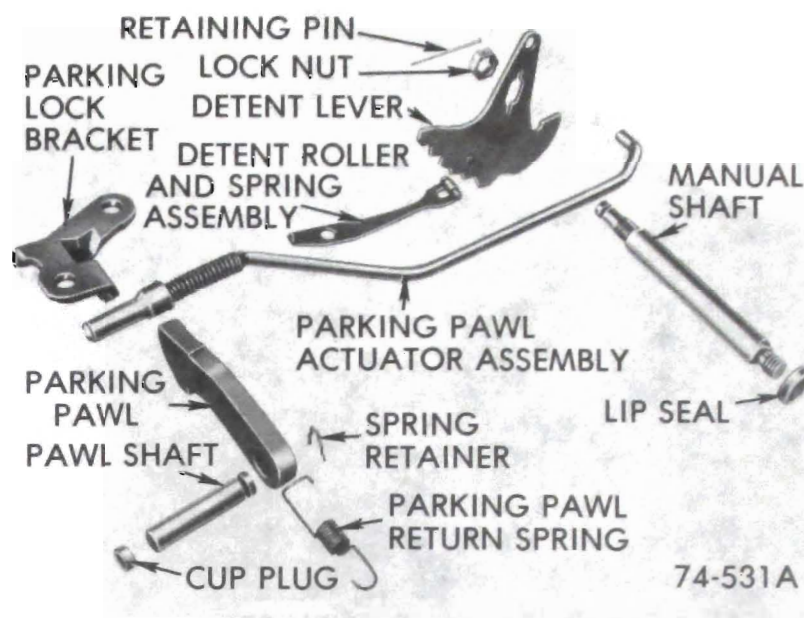

Figure 76-75
d. Remove manual shaft and jam nut from case. If necessary, remove manual shaft to case lip seal. See Figure 76-75.